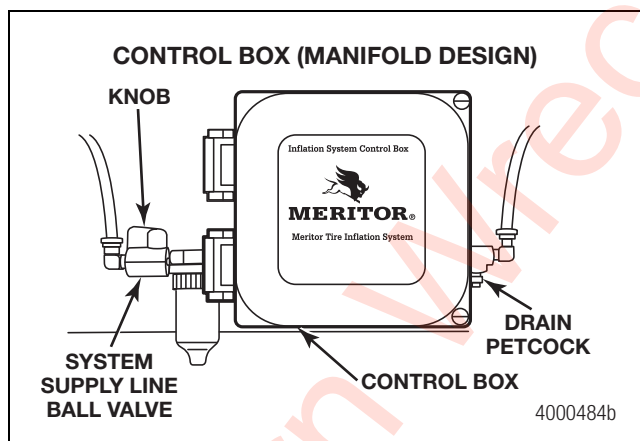
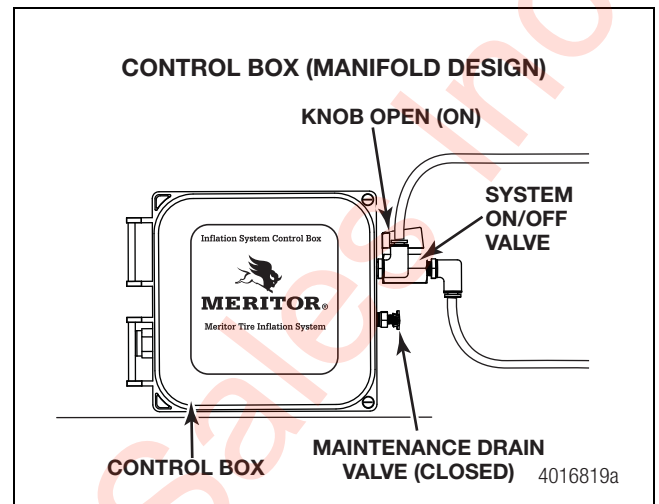

Figure 4.1
Figure 4.2
3. Check that the system ball valve is open. When the supply line ball valve is open, the knob aligns with the valve body. Ensure that the drain petcock is closed. Figure 4.1 and Figure 4.2.